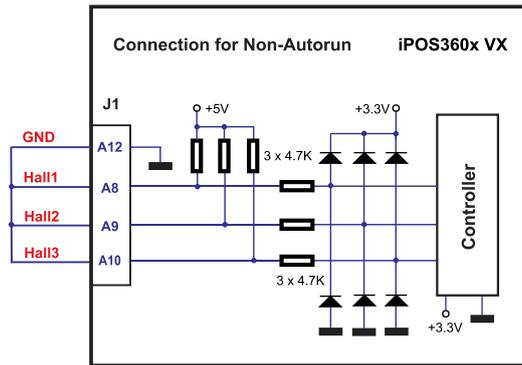

Figure 3.32. Temporary connection during power-on to disable the drive from Autorun mode
1. The CAN network requires a 120-Ohm terminator. This is not included on the board. Figure 3.32 shows how to connect it on your network